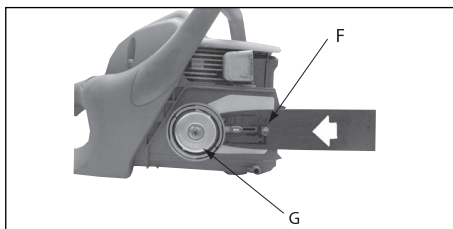

Fig. 3E
4. Place the slotted end of the guide bar over the bar bolt (F). Slide guide bar behind clutch drum (G) until the guide bar stops (Fig. 3E).